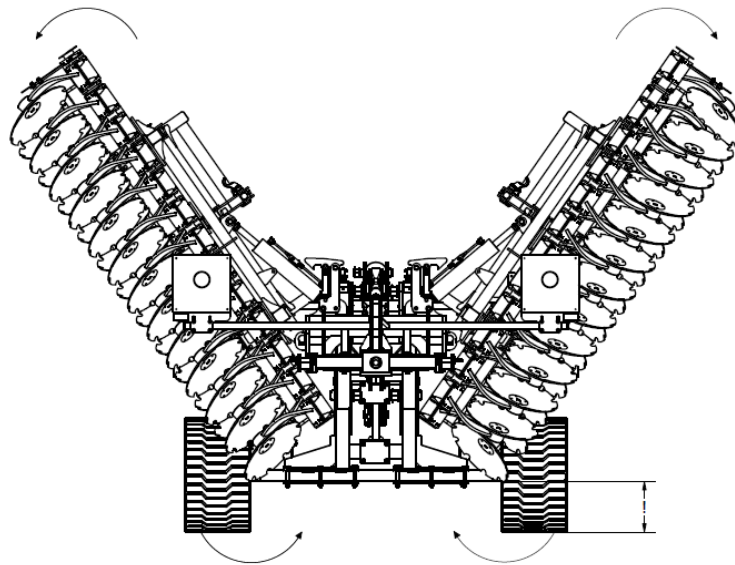

Fig. 8 Implement opening sequence: open the implement paying particular attention to the height of the arm ends from the ground.
4. When opening the implement's side extension arms, make sure that the ends of the arms are at the correct height to prevent them from catching on the ground (Fig. 8).